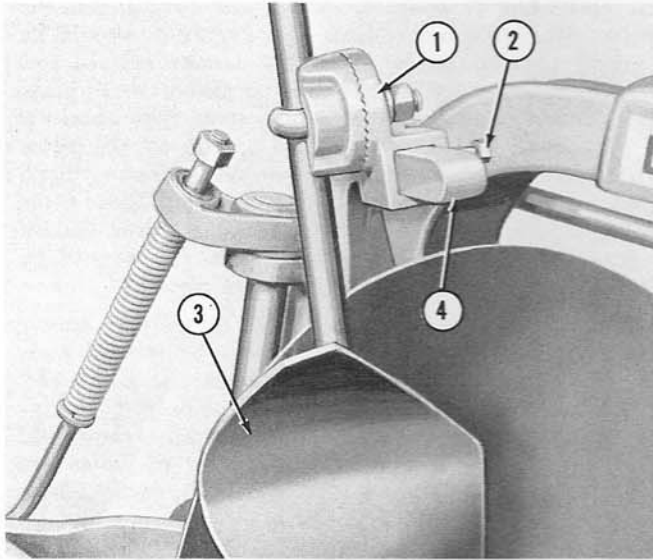

Figure 7
**Scraper Adjustment:** The moldboard type scrapers shown in Figure 7, are adjusted by loosening the nut (1) on the eye bolt and raising, lowering, or changing the pitch of the scrapers (3) as desired.